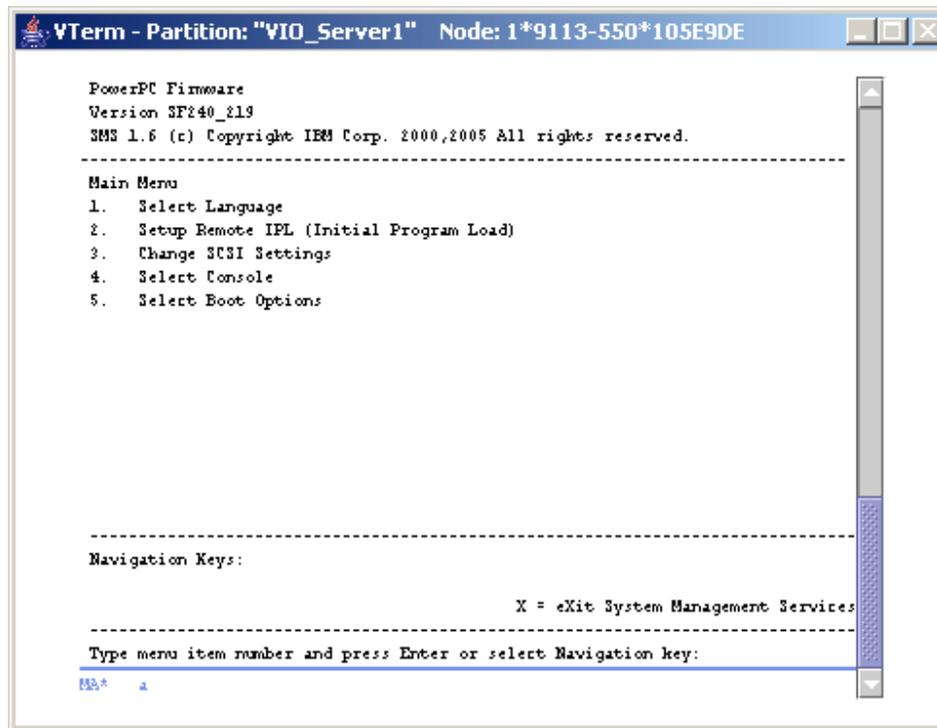

Figure 3-25 SMS menu
5. Figure 3-25 shows the SMS menu after booting the partition on SMS mode.